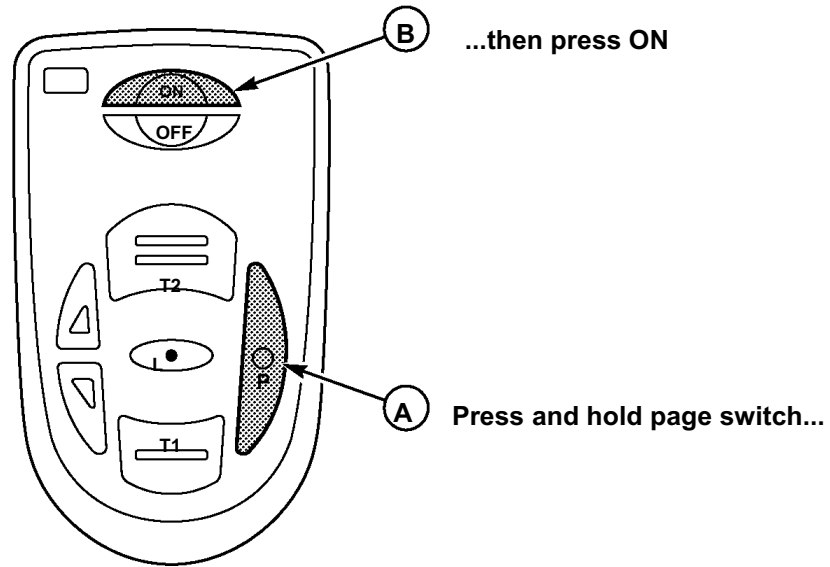

Figure 14. Page Switch and OFF Switch
2. While pressing and holding the page switch, turn the headset ON. This locks the headset in the page monitor mode. See Figure 14.